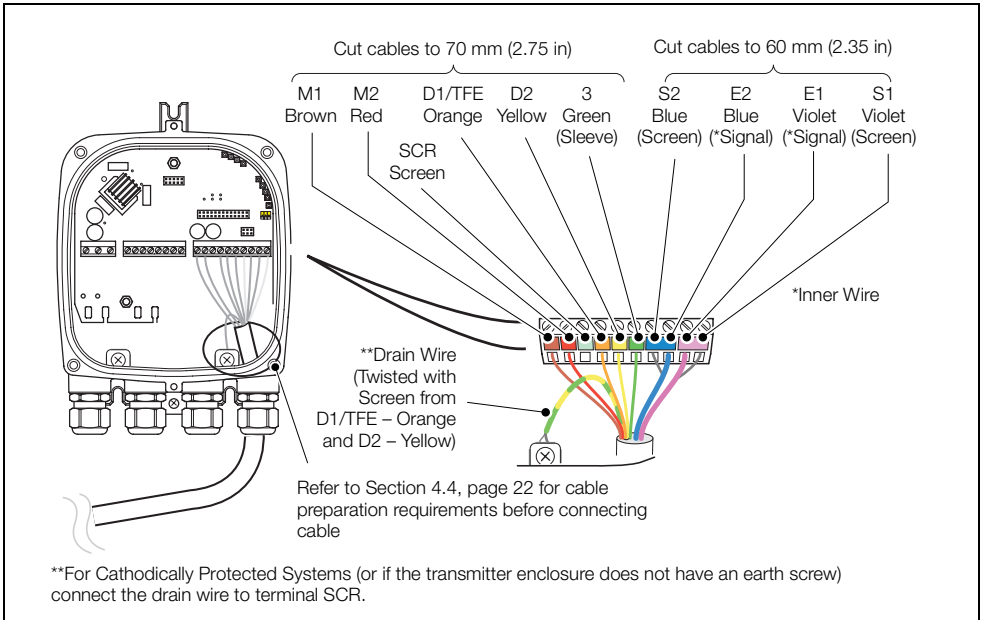

Fig. 4.10 Sensor Cable Connections at Transmitter Terminal Block – Standard System (Non-cathodically Protected)
3. Cut the cable connection wires to the lengths shown in Figs 4.10 and 4.11, page 23.